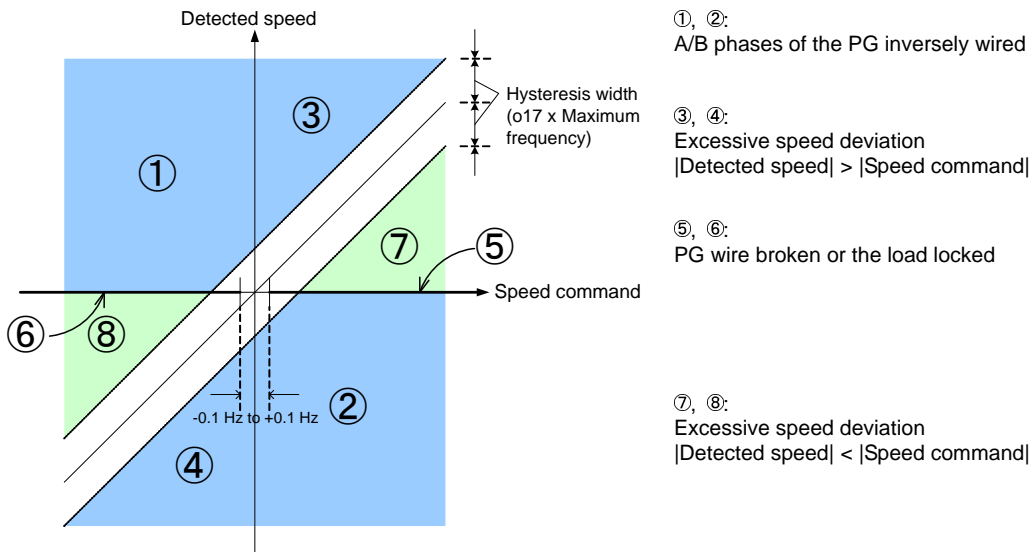

Figure 8.1 Excessive Speed Deviation Detection and Speed Command
2: Stop running (Alarm mode 2)	Any status of ① to ⑧ in Figure 8.1 is kept exceeding the timer setting specified by o18.
When *ere* alarm occurs, the current error factor (any of ① to ⑧) can be displayed on the keypad by using Menu #6 "Alarm Information," Item 6_21 "Error sub code." The relationship between the error code and error factors in Figure 8.1 are: 1 for ① or ②, 3 for ③ or ④, 5 for ⑤ or ⑥, and 7 for ⑦ or ⑧. For details, refer to the inverter's instruction manual. (Refer to the description of function code E52.)